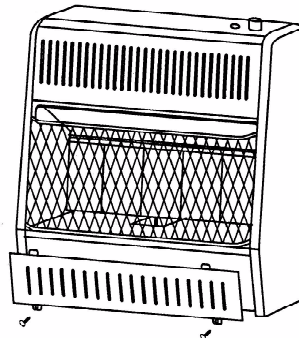

Figure 7 - Removing Lower Front Panel of Heater
2. Pull bottom of lower front panel forward, then down (see Figure 7).